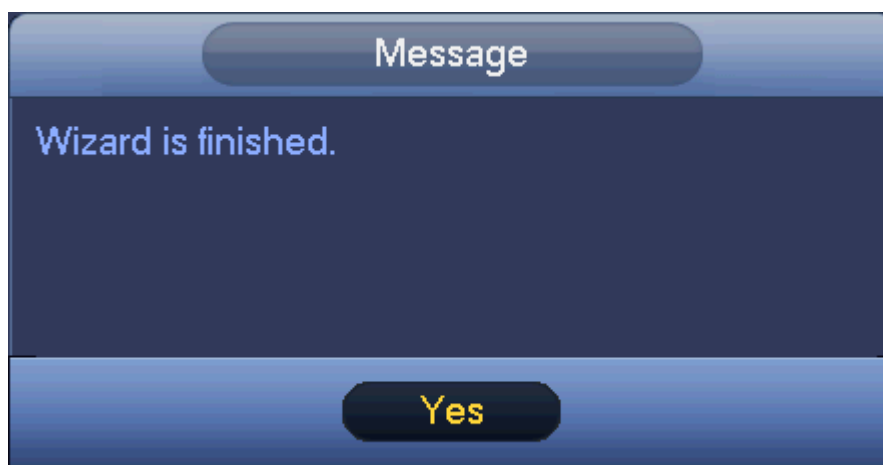

Figure 4-32
- Step 7 Click Finish button, system pops up a dialogue box. Click the OK button, the startup wizard is complete. See Figure 4-32.